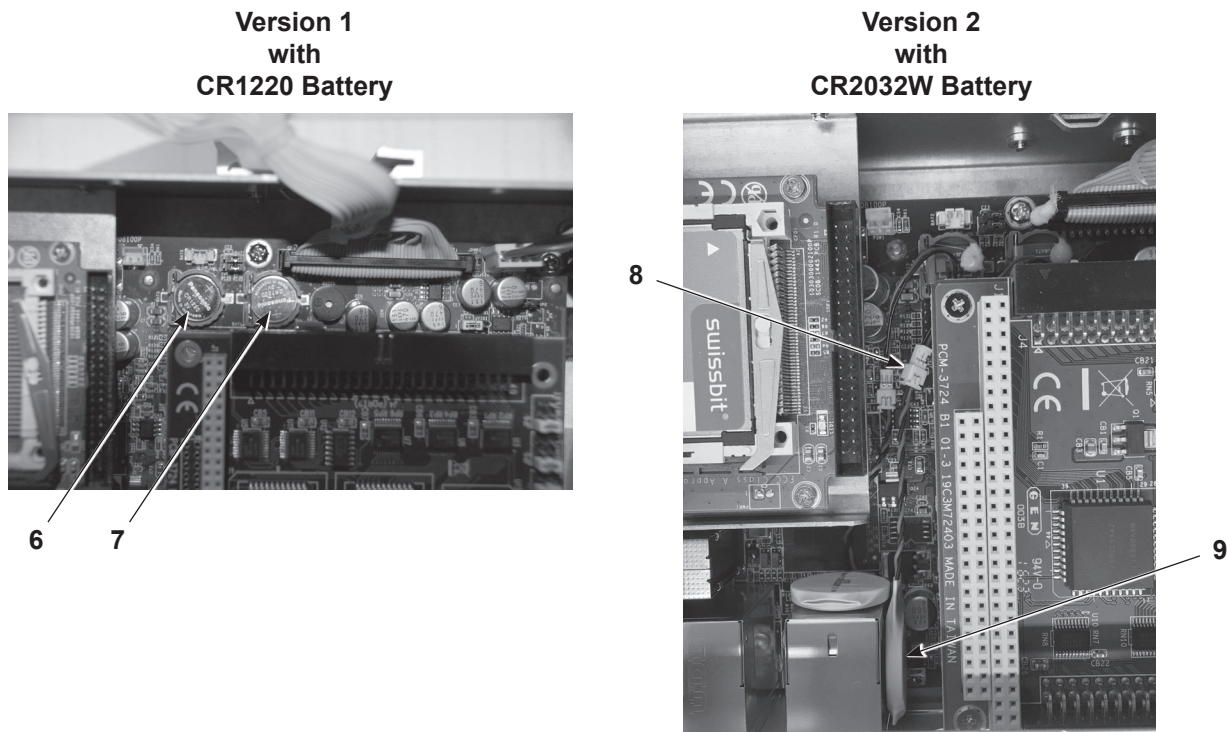

Figure 5-9 Battery Replacement
**NOTE:** See Figure 5-9. Location and type of battery varies depending on version of the PC board.
- a. **Version 1** – Remove BAT1 (7) battery by placing the head of a small flat head screwdriver under the battery to lift out from board.
- b. **Version 2** – Pull the battery assembly (9) from the two-sided tape holding it to the board fixture. Disconnect the battery harness (8) to remove battery from board.
- a. **Version 1** – Install new battery (7) onto board, observing proper orientation of battery.
- b. **Version 2** – Connect new battery harness (8), and push battery assembly (9) onto board fixture with double-sided tape.